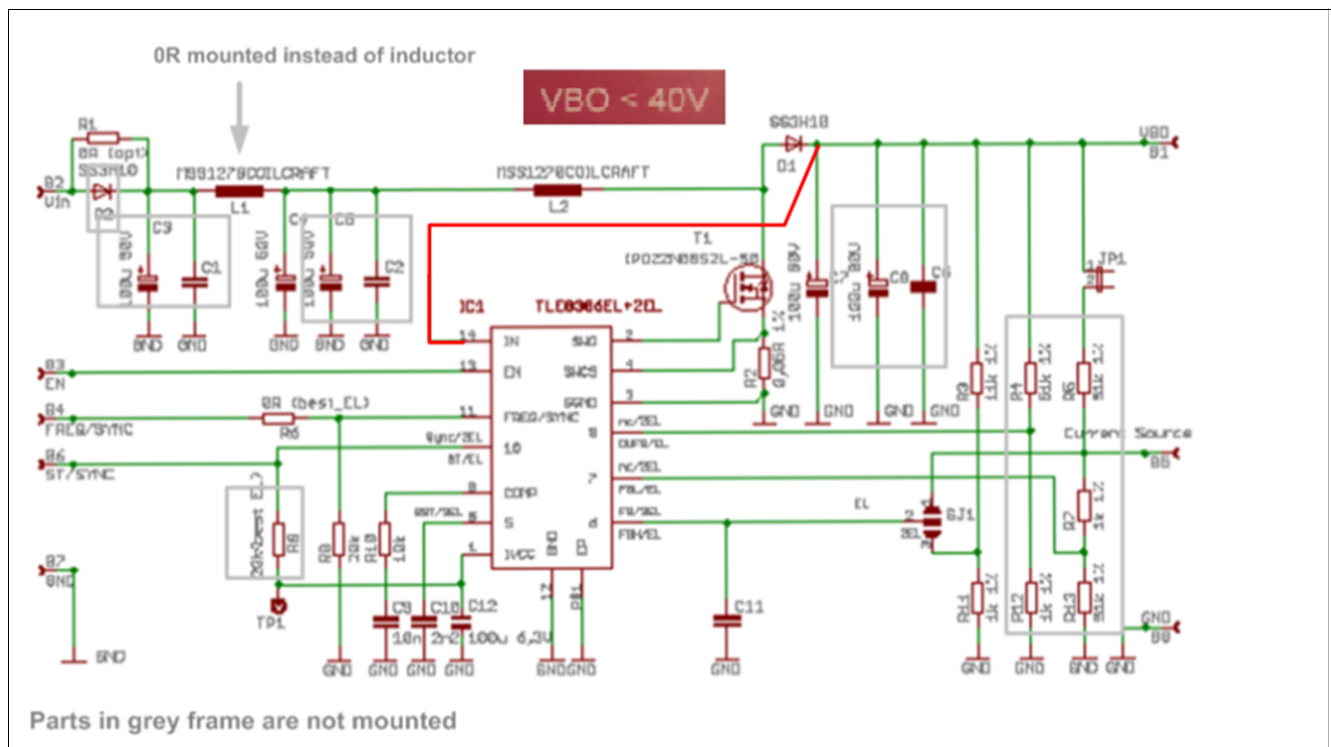

Figure 4 Modified Boost Converter Application Circuit for Cranking Counter measure
Figure 4 below shows the modification, pin IN (14) is now connected to the output capacitor C_{OUT} .